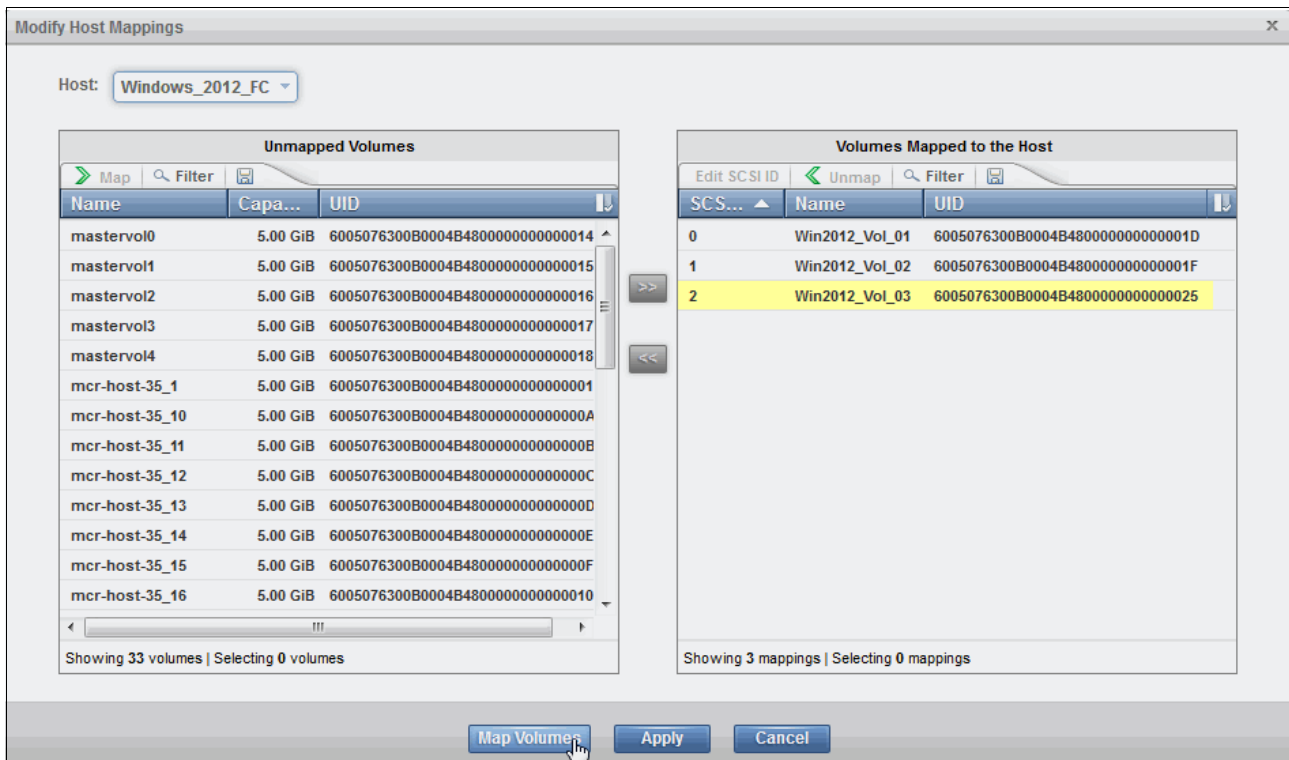

Figure 8-43 Modify Host Mappings
- After a host is selected, the Modify Host Mappings pane opens. In the upper left, the selected host is displayed. The volume that is to be mapped is highlighted in yellow, as shown in Figure 8-43. Click **Map Volumes** to apply the changes to the system.